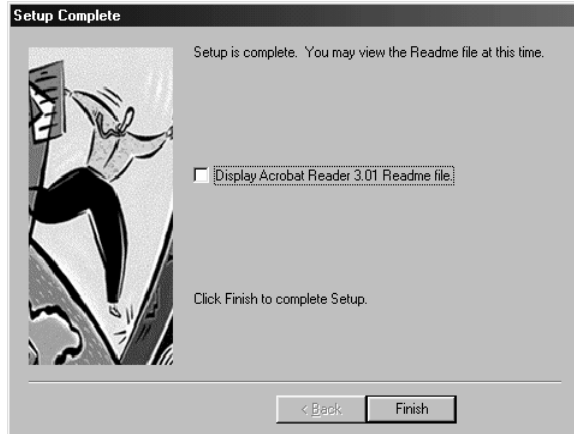

Figure 26: Completing the installation
5. Click on 'Finish' to complete the installation of Acrobat Reader. (Figure 26)